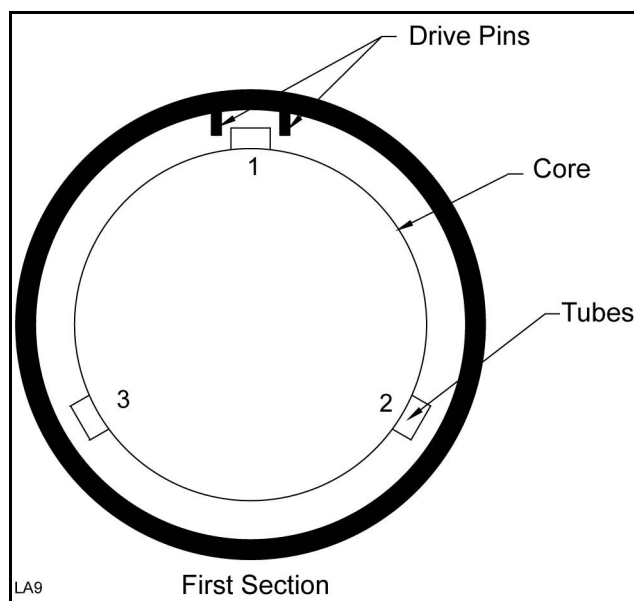

Figure 13. Number Tubes
1. Number the tubes on the core as 1, 2 and 3. See Figure 13.
2. Slide the first section onto the core with the drive pins on either side of tube 1. Make sure that the drive pins angle upward (Figure 13).